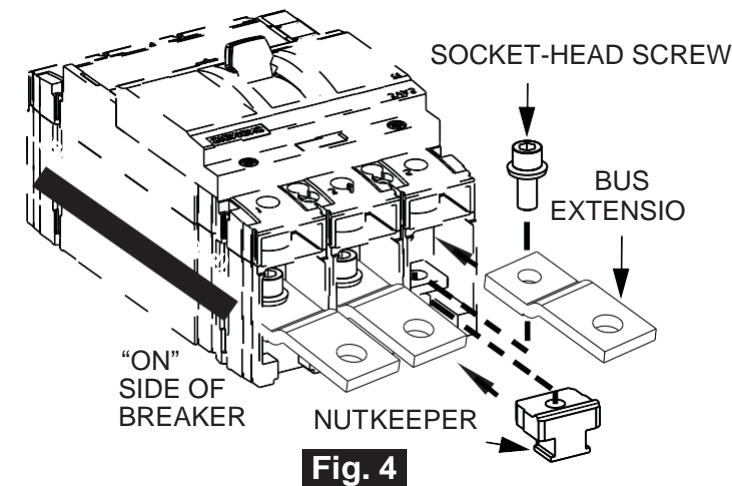

Fig. 4
9. Prepare the breaker (purchased separately), using the Hardware Kit (Item 9) and the included instructions. NOTE: Hardware Kit includes two sets of Nut Keepers; one set clicks into place on the 3VA52 breakers, the other clicks into 3VA62 breakers. Attach Bus Extensions with included screws per instructions. (Refer to Fig. 4)